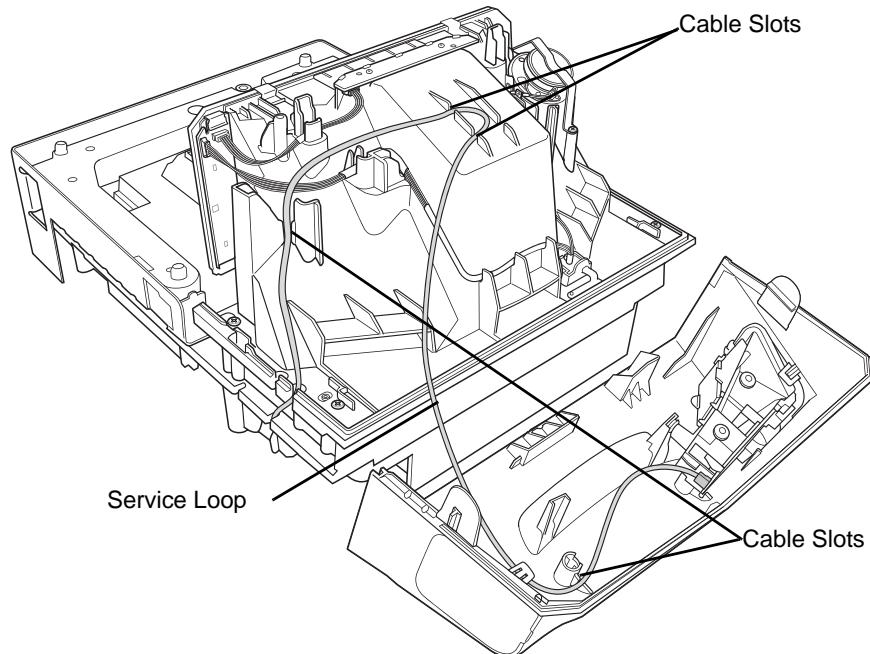

Figure 3-22 Routing the Cable
9. Route the cable, looping through the right side cable slots as shown in Figure 3-22. (Cable wire should be tight.)